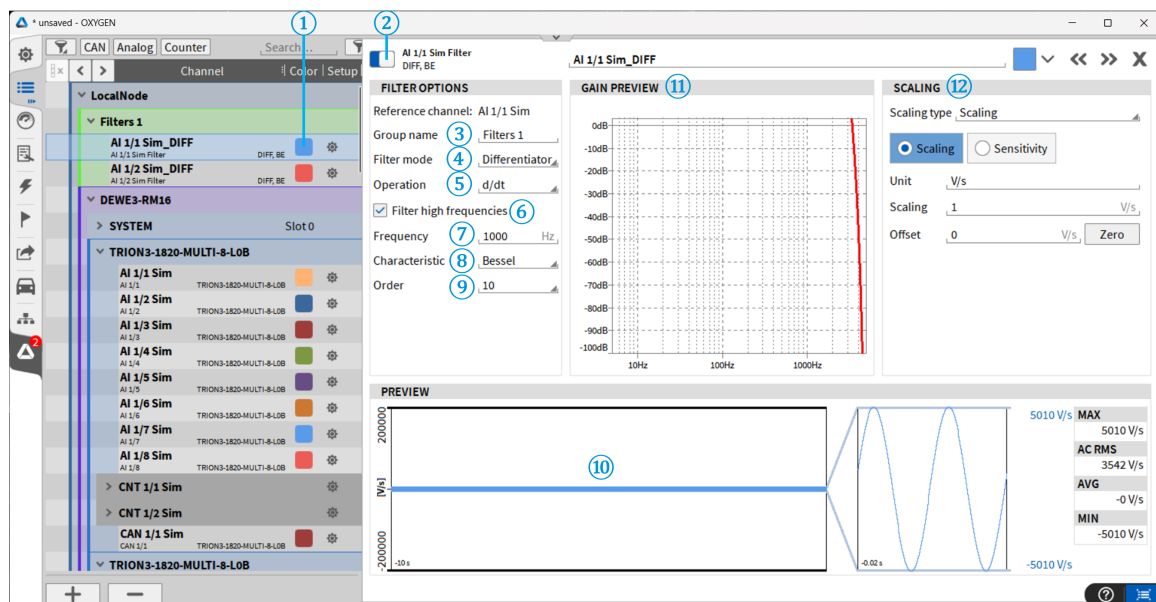

Fig. 7.95: Filter channel setup - overview
- After pressing enter, the channel will appear in the *Data Channels* menu. The defined channel parameters can be changed afterwards in the Channel Setup (see Fig. 7.95).